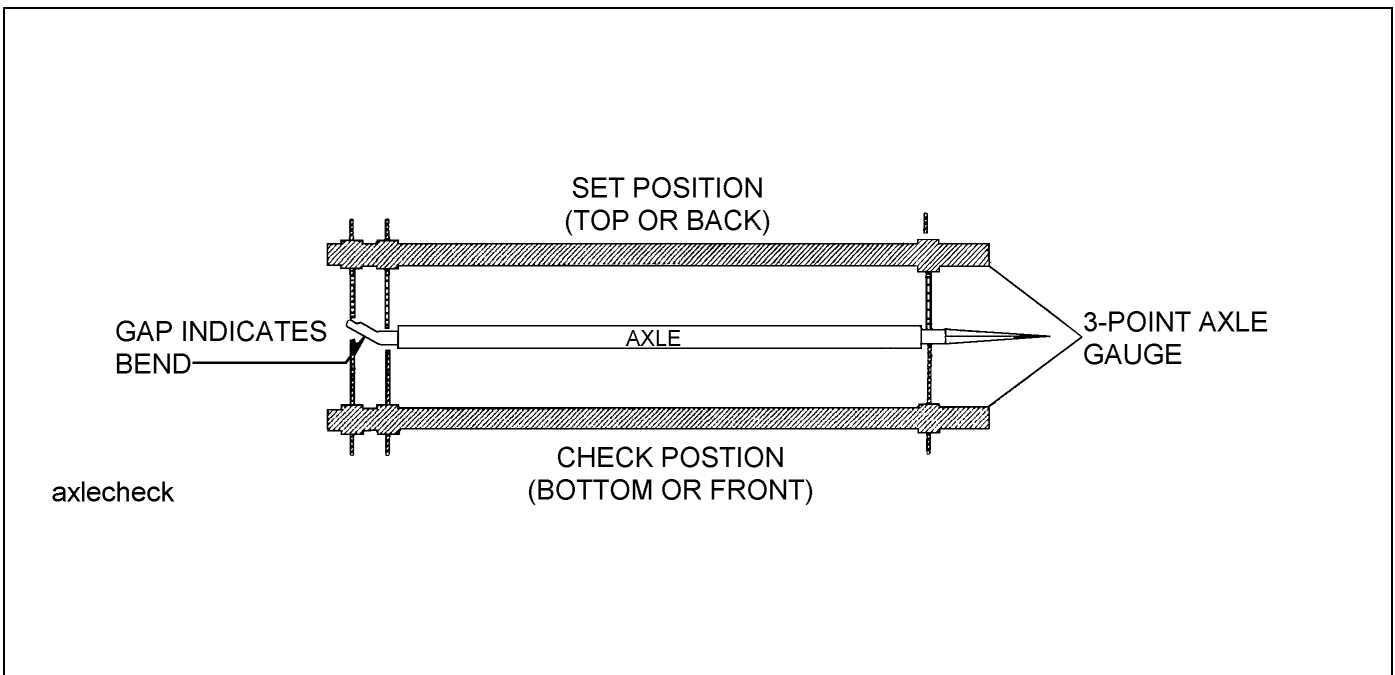

Figure 4-4: Checking Axle for Bend
2. Place a 3-point axle gauge against the front side of the axle, and adjust each axle gauge point to the axle. (Double point end against the inner and outer wheel bearing surfaces of the spindle being checked and the other point on the inner bearing surface on the other spindle.) **(See Figure 4-4.)**
3. Move the axle gauge and place against the back side of the axle. If either of the points of double point end fails to touch the axle surface, a bent spindle is evident. A point gap of .015" or more is considered excessive tire "toe" and the axle must be replaced **(See Figure 4-4.)**